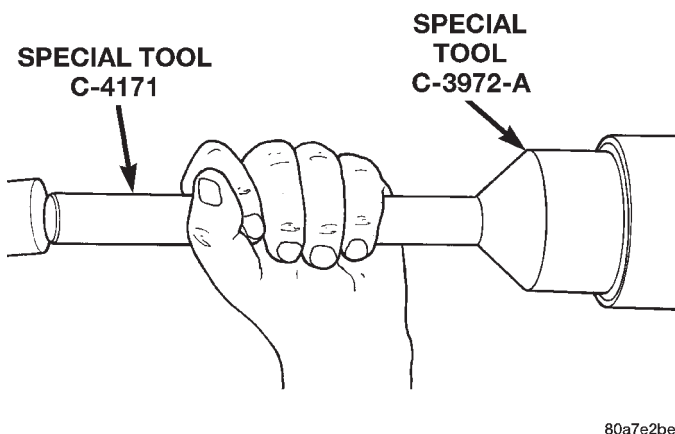

Fig. 48 Pinion Seal Installation
(5) Install pinion front bearing, and oil slinger, if equipped.
(6) Apply a light coating of gear lubricant on the lip of pinion seal. Install seal with Installer C-3972-A and Handle C-4171 (Fig. 48).